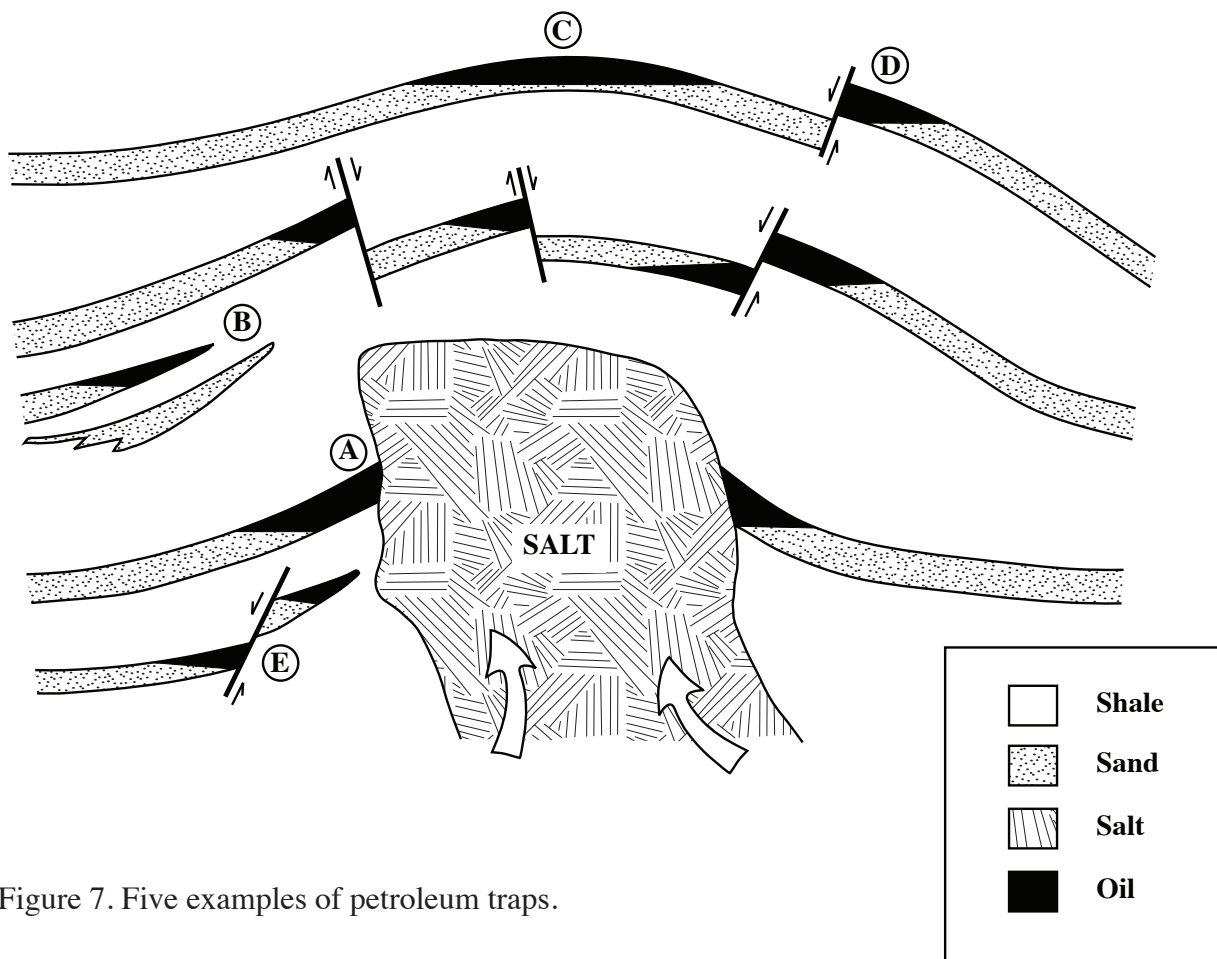

Figure 7. Five examples of petroleum traps.
11. Classify each of the following traps in Figure 7.